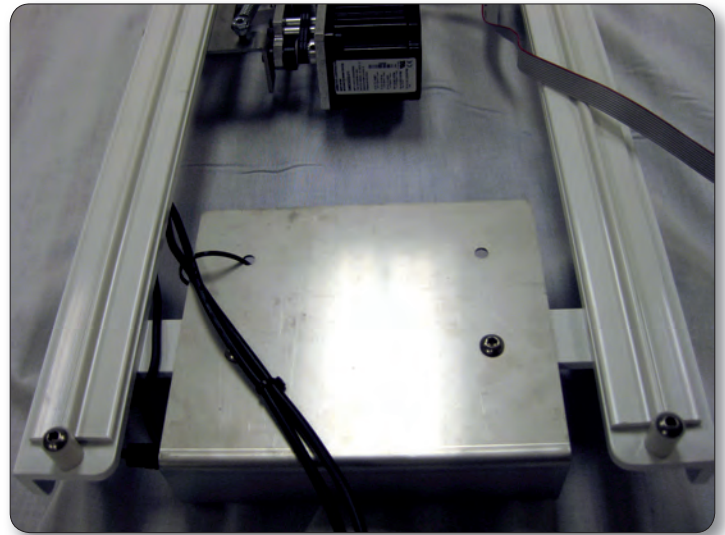

Figure 15
4. The black cables that extend out the back of the HQ Pro-Stitcher carriage (Figure 15) provide power and communications to the motors and are already attached to the carriage. Lay that cable so it extends out the back and the stitch regulator cable so it extends out the side as shown in Figure 15.